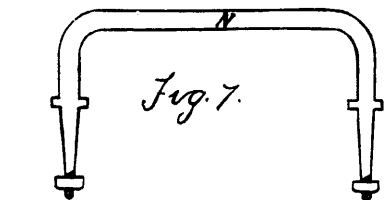

Fig. 7.
Fig. 7 shows yoke or buckle (N).
N shows yoke or buckle made as shown in Fig. 7 of 1 $\frac{1}{2}$ " round iron.